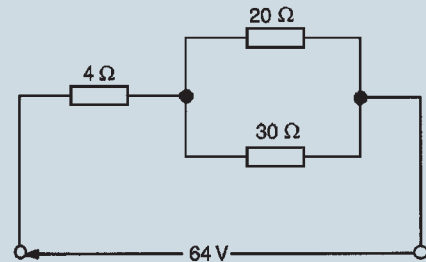

Figure 7.31
- (a) Calculate the current flowing in the $30\ \Omega$ resistor shown in Fig. 7.31. (b) What additional value of resistance would have to be placed in parallel with the $20\ \Omega$ and $30\ \Omega$ resistors to change the supply current to 8 A , the supply voltage remaining constant.